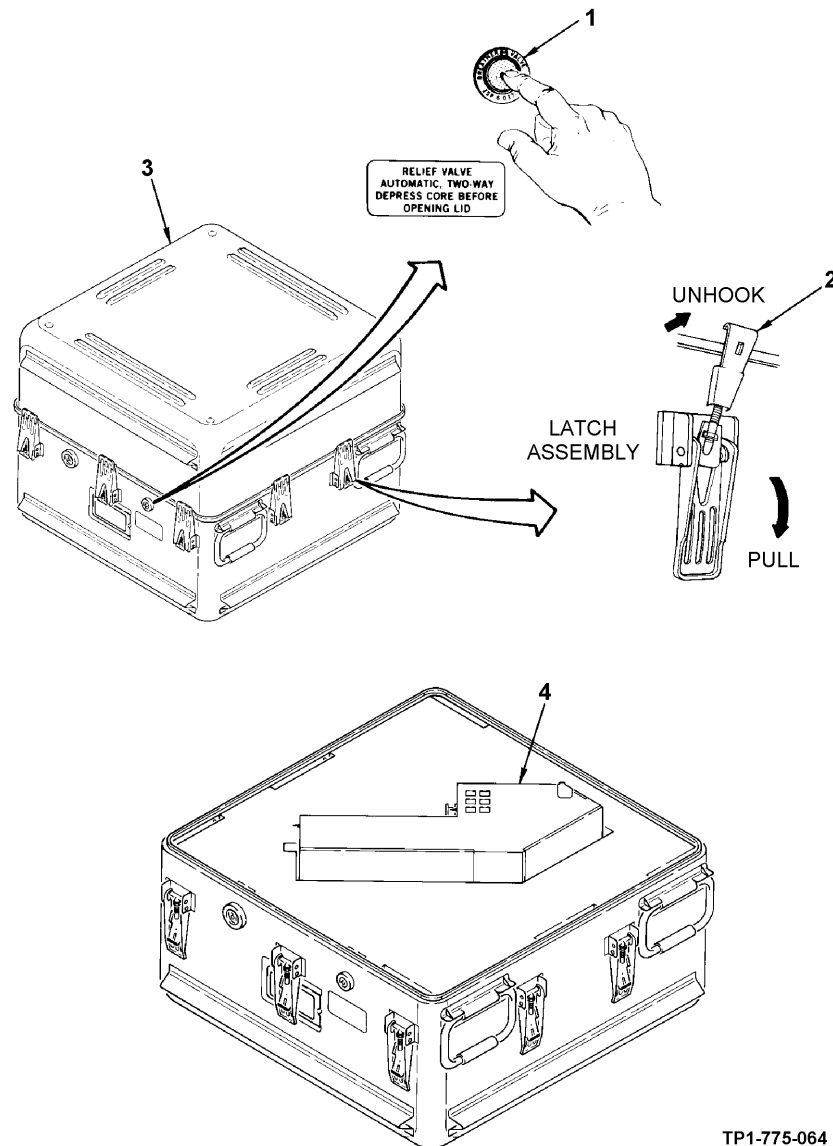

Figure 6-2. IVD Electronics Assembly Removal From Shipping and Storage Container
- a. Press container pressure relief valve (1, figure 6-2).
- b. Open container latches (2).
- c. Remove container lid (3) and set aside in a clean dry area.
- d. Carefully remove IVD electronics assembly (4) from container.